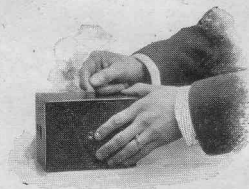

FIG. 1.
I. Take a position at a table as far as possible from any window and pressing on the bottom of camera near the tripod socket with the left hand pull out the brass catch as indicated in Fig. 1 and take the roll holder from the box. See Fig. 2.